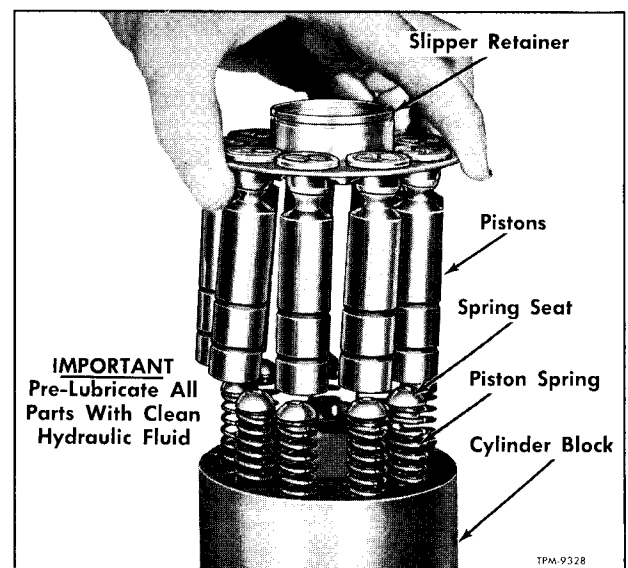

Figure 50—Installing Pump Pistons In Cylinder Block
5. Prior to assembling pistons into block, oil all parts. Referring to figure 50, assemble piston springs (16) and spring seats (15), into cylinder